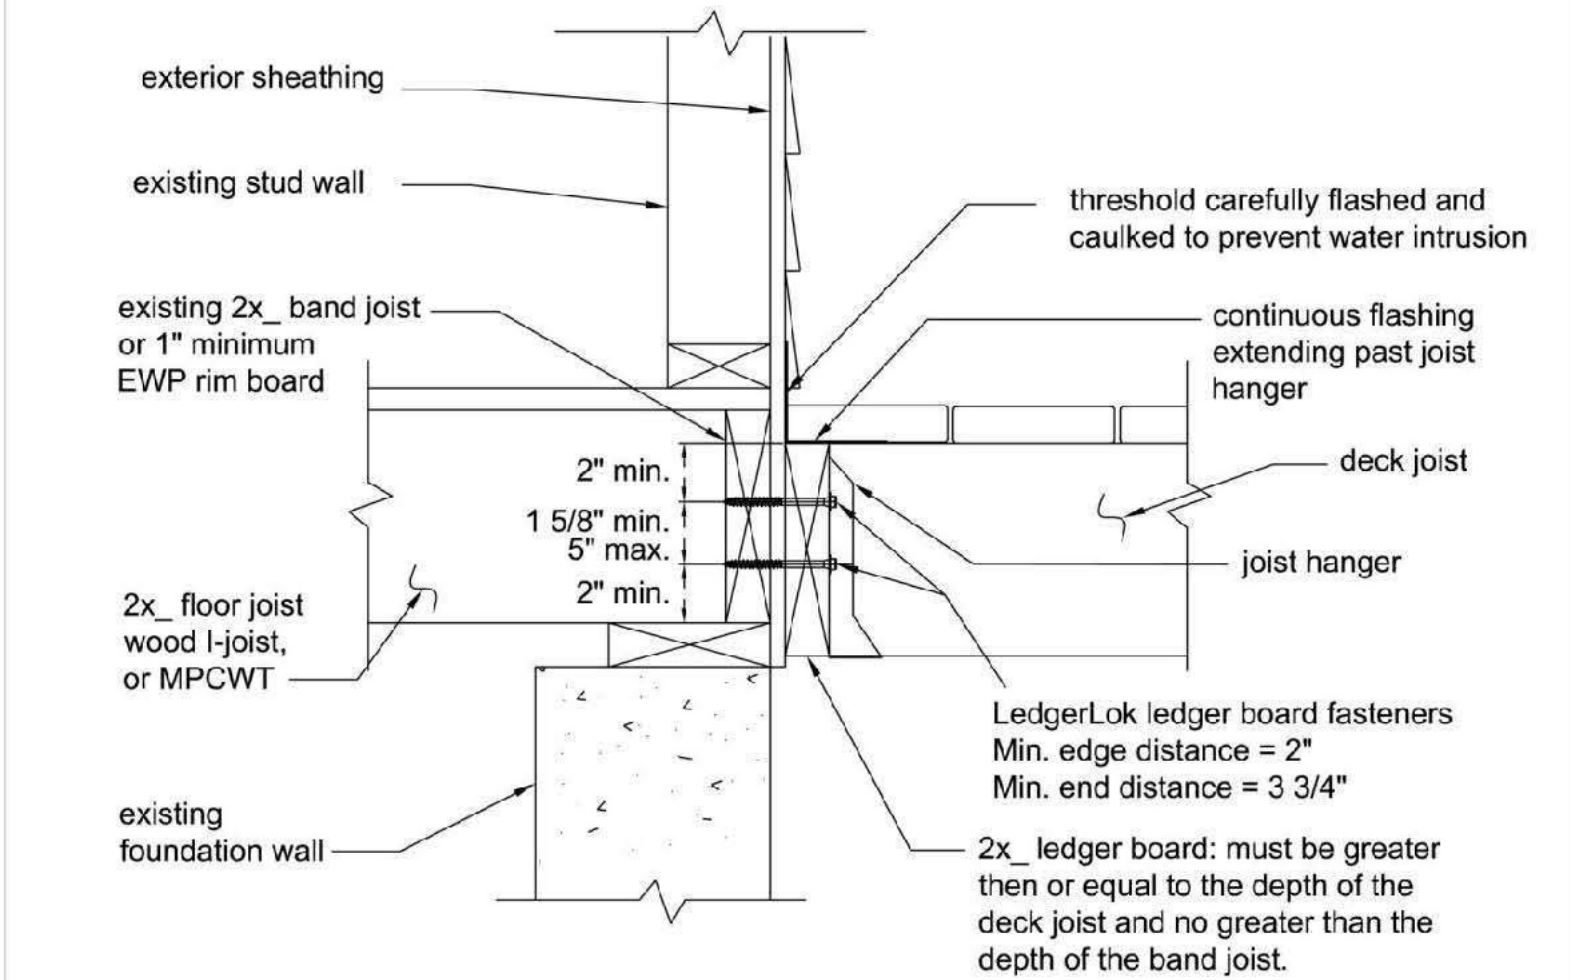

Figure 2: LedgerLok Ledger Board Fastener Deck Connection
4. Fastener spacing is based on tested loads. The design values use the lesser of a 1/8" deflection or a factor of safety equivalent to or greater than that of the code compliant lag screw application as defined in Figure 2.
- Figure 2 shows a detail of the LedgerLok Ledger Board Fastener deck connection, including minimum edge and end distances.